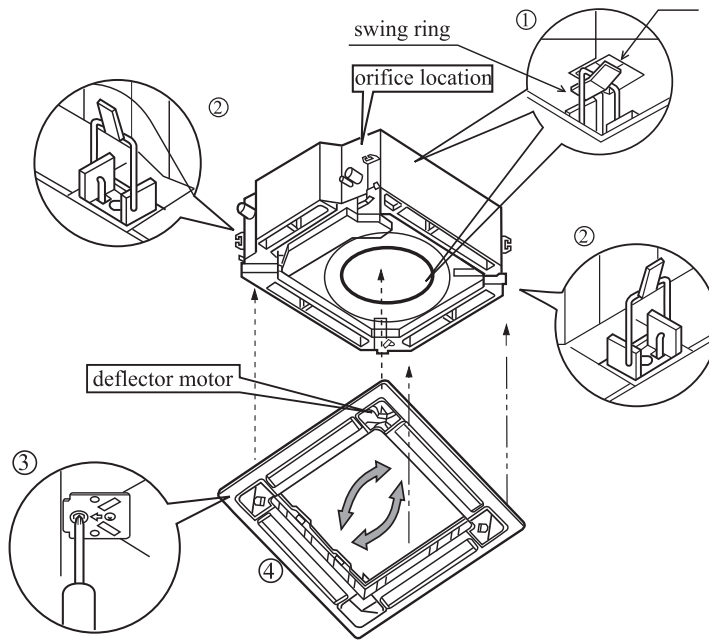

Fig.1
② AB182~482MCAHA
- As shown in Fig. 1, make the wind deflector motor of the decorated board face to the orifice of the indoor unit, and then mount the decorated board onto the body of the indoor unit.